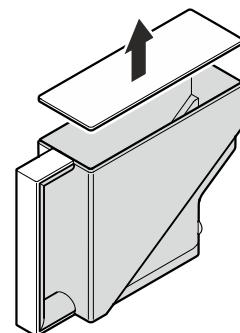

Figure 19
- Remove cover and fill tank with water (**Figure 19**).